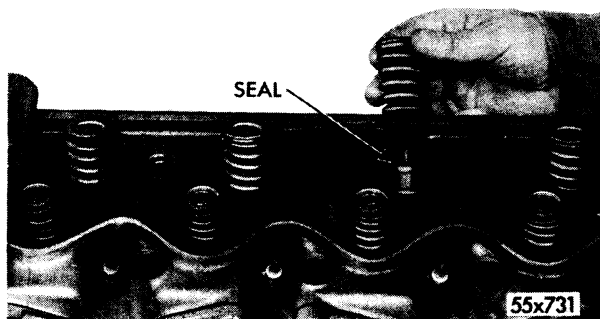

Fig. 72—Installing Intake Valve Spring, Stem Seal and Retainer
- (4) Install the valve springs and retainers, as shown in Figure 72. Using Tool C-3428, compress the valve spring and install the locks. Remove the tool.